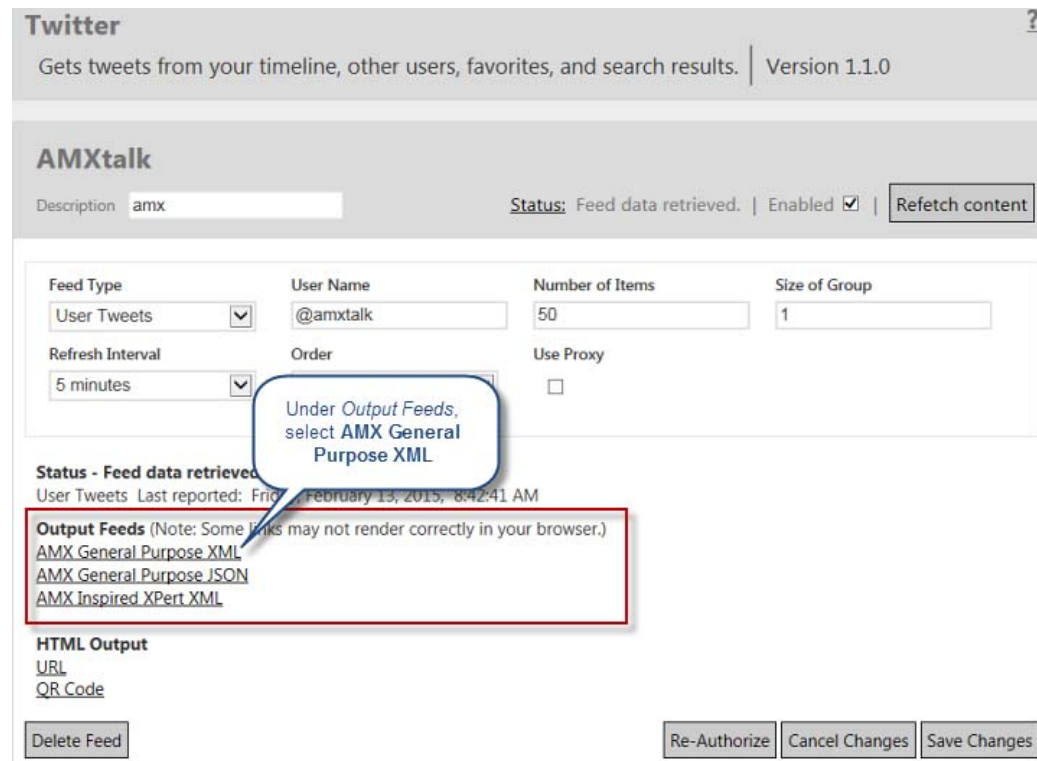

FIG. 183 XPort - Twitter (AMXTalk) feed page
5. When the feed is ready, the Twitter feed page presents several **Output Feed** options (FIG. 183):